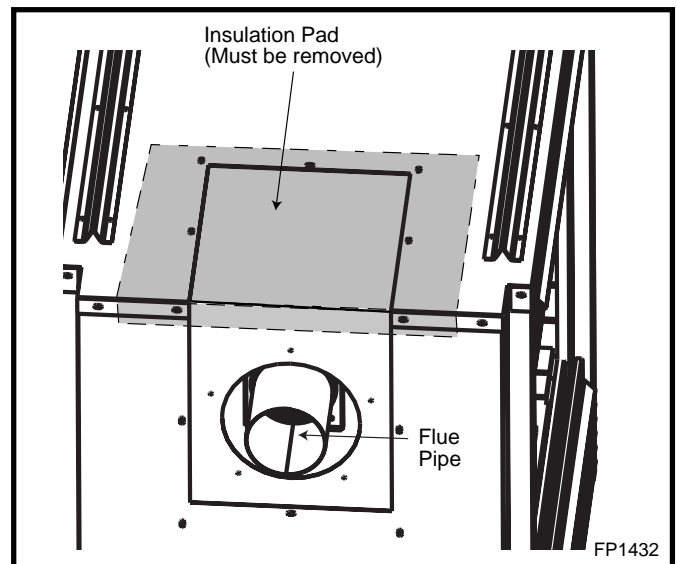

Fig. 10 Remove flue cover and pipe.
3. Remove the insulation material (exposed in Step 2) from the top of the unit. (Fig. 10) This material can be discarded; however, if the unit is converted back to rear-vent, a new piece of insulation material approved by CFM Specialty Home Products must be used for this purpose.